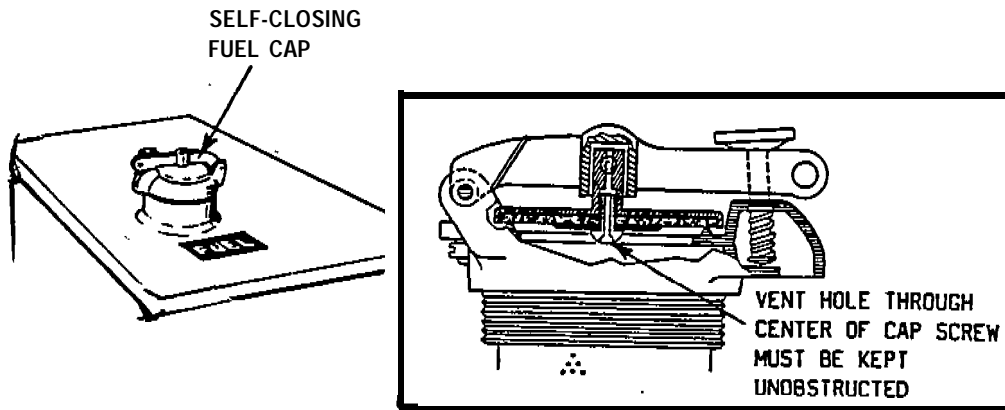

Figure 1.
(Weekly) 2. ( ) The fuel filler cap (1)\* is vented and the vent is not plugged. (See FIGURE 1).